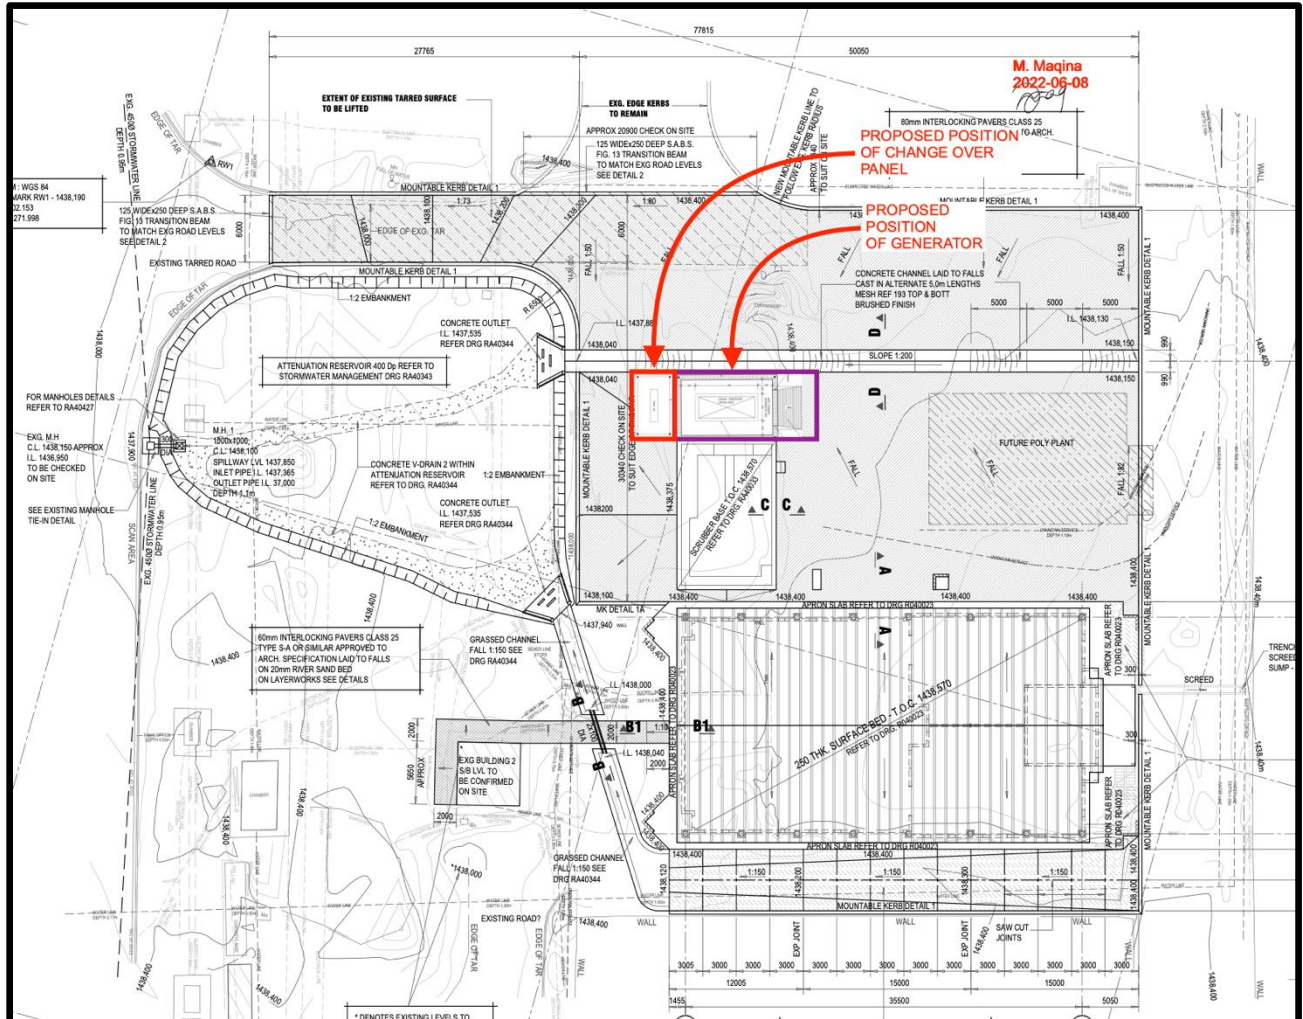

Figure 1 – Proposed Location of Generator Set and Change Over Panel
- 3.1.6. Setting out works (a proposed location for the generator and change over panel is shown in the Figure 1 below – the Contractor is to evaluate the feasibility of the location given all Contract requirements, any deviation from the proposed position must be approved by Rand Water. Comments on the proposed position must be raised before the completion of design for the generator and associated shelter).